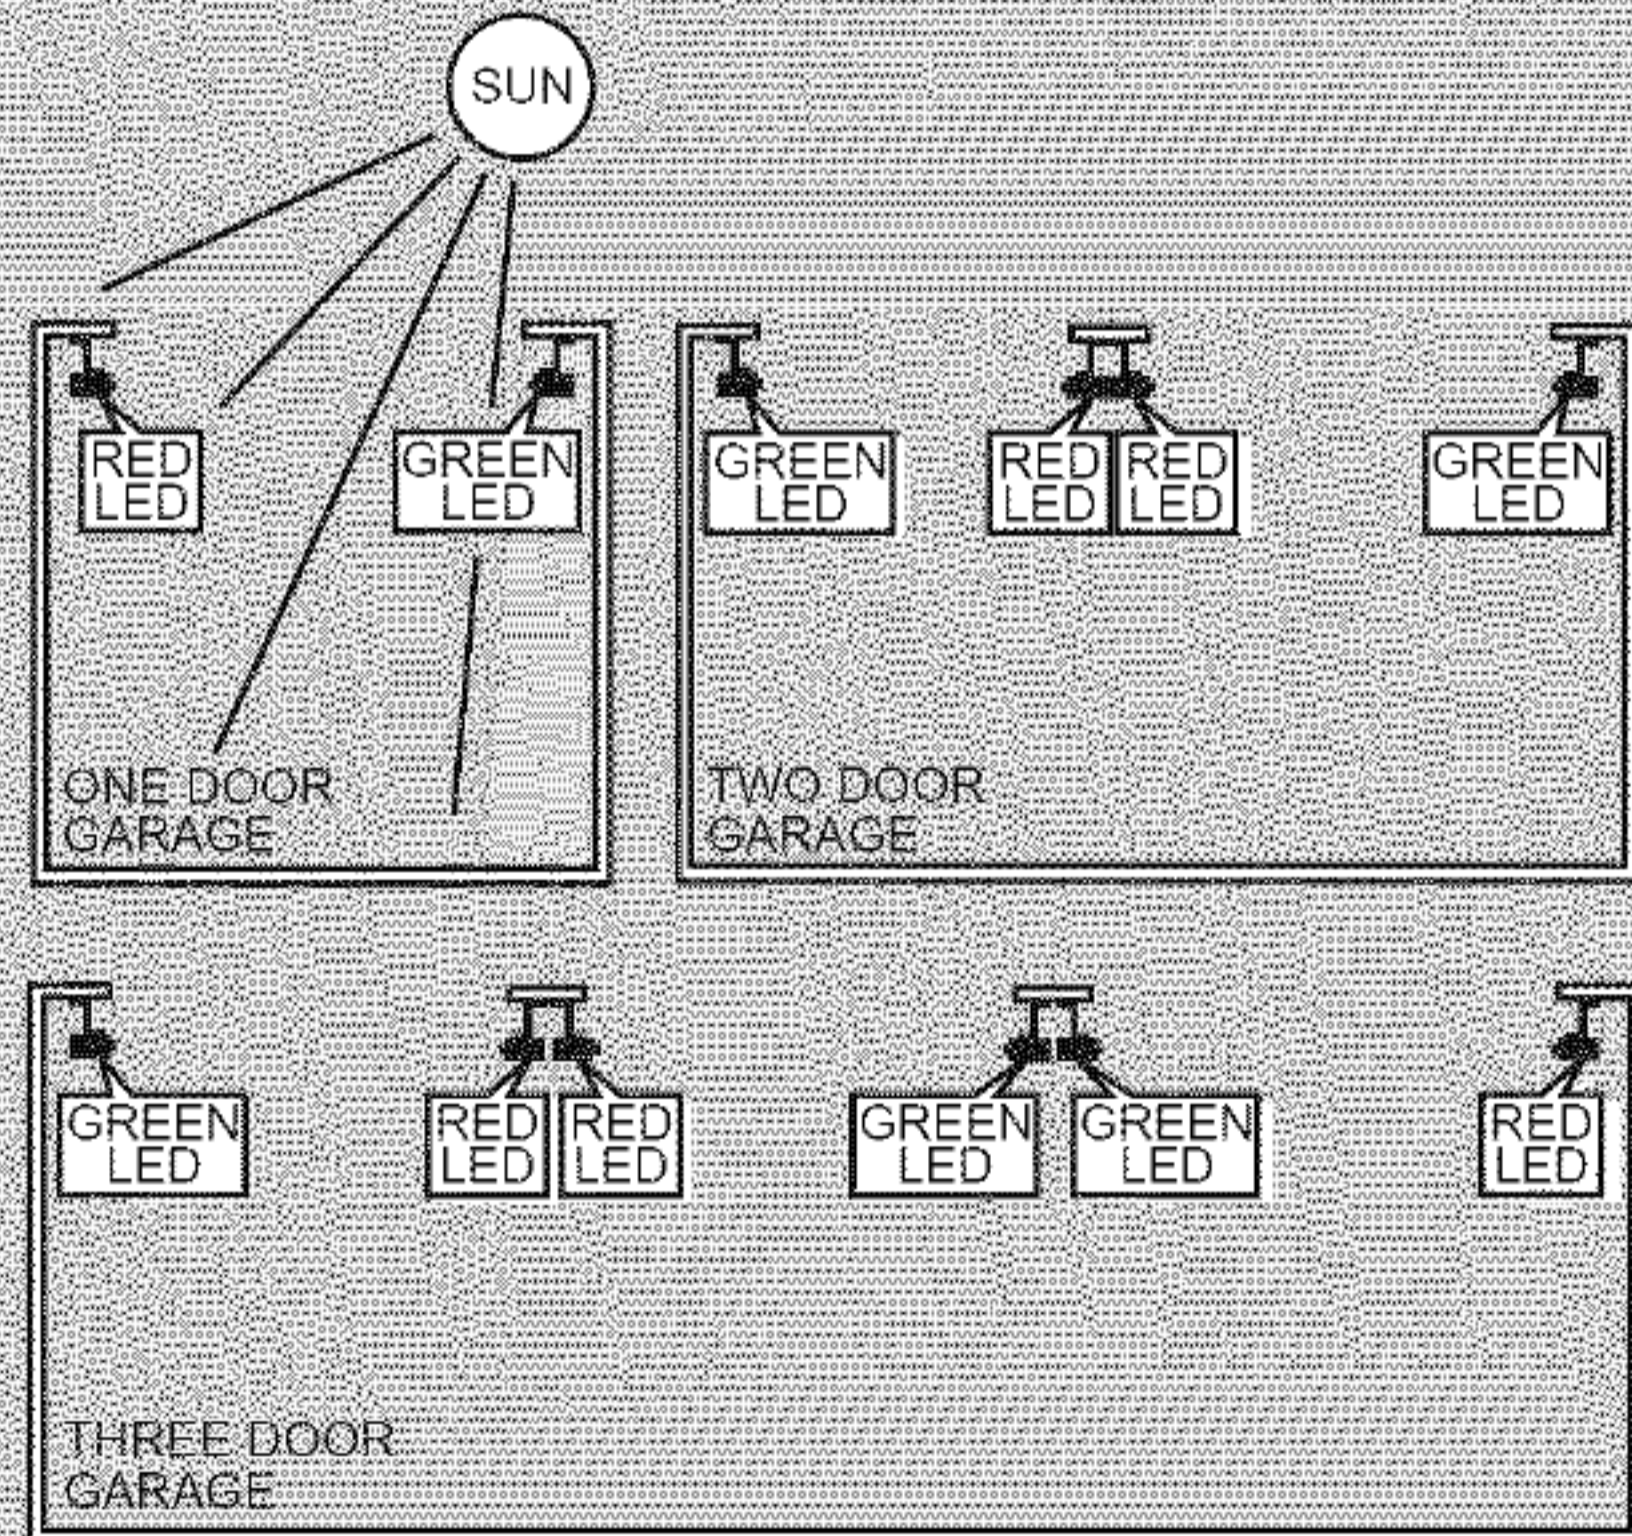

FIG. 3-4 STB locations.
- Determine which side of garage receives most direct sunlight (Fig. 3-4).
- Red LED should always be on sunny side whenever possible (Fig. 3-4).
- Place source and sensor modules on adjacent doors facing in opposite directions (Fig. 3-4).